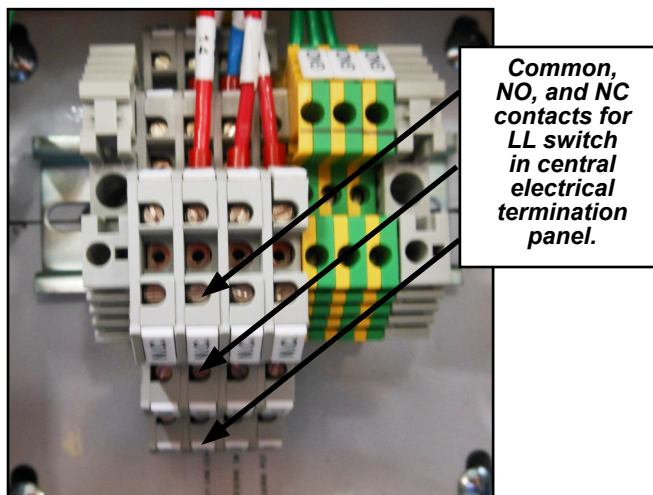

Figure 17 - Central electrical termination panel
- After the tank has been purged and filled, open the panel where all the alarms are terminated (see Figure 17).